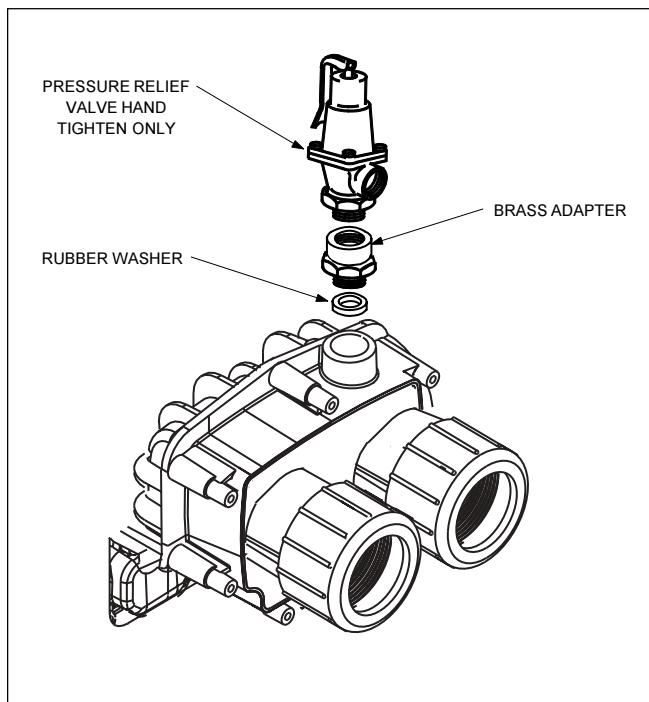

Figure 16. Pressure Relief Valve Installation
6. Install the rubber washer at the bottom of the hole (see Figure 16).